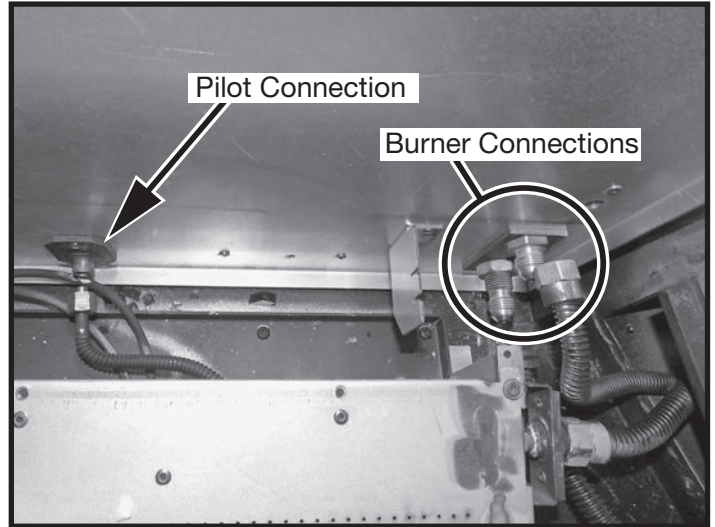

Figure 108: Gas connections in the firebox.
4. Release 3 gas connection points as shown in Figure 108.